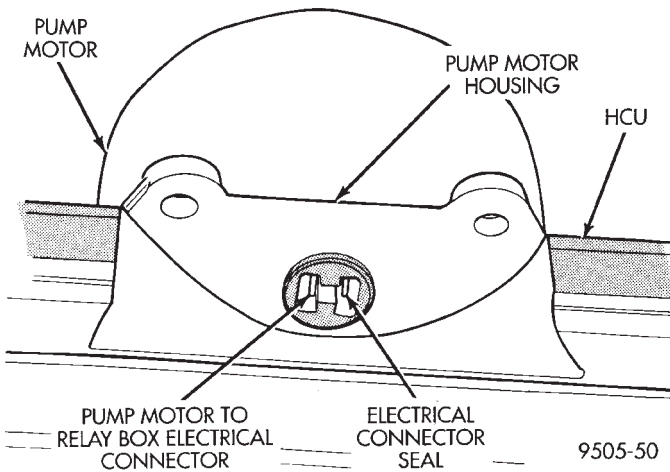

Fig. 27 Pump Motor To Relay Box Electrical Connection Seal
(1) Be sure electrical connector seal (Fig. 27) is installed in pump motor housing before installing relay box. If electrical connector seal is cracked, brittle or in any way damaged it must be replaced before installing relay box.